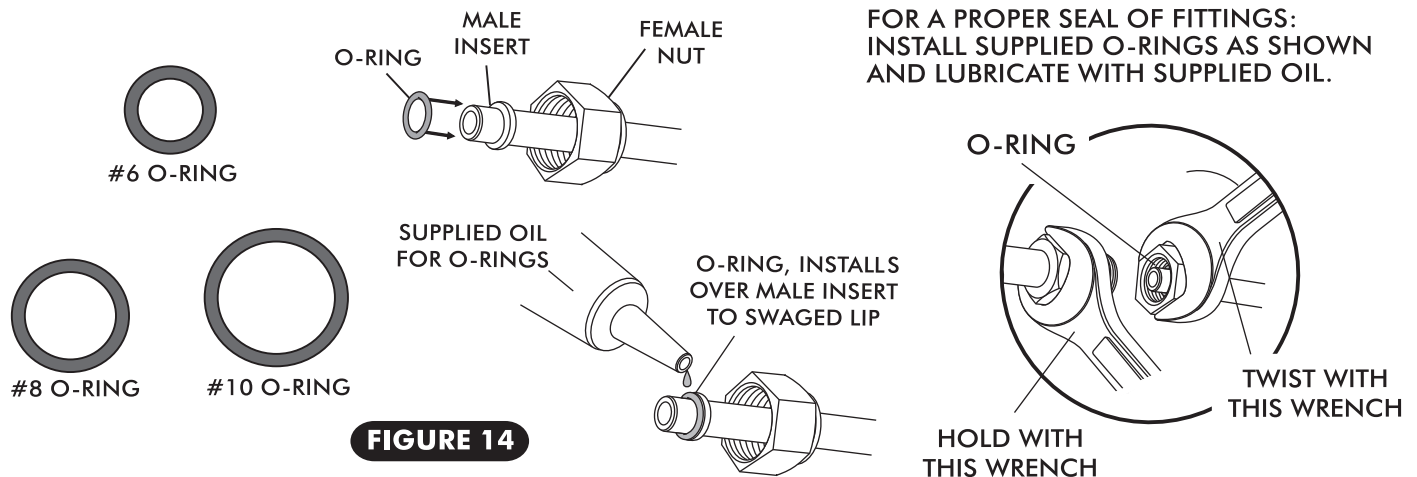
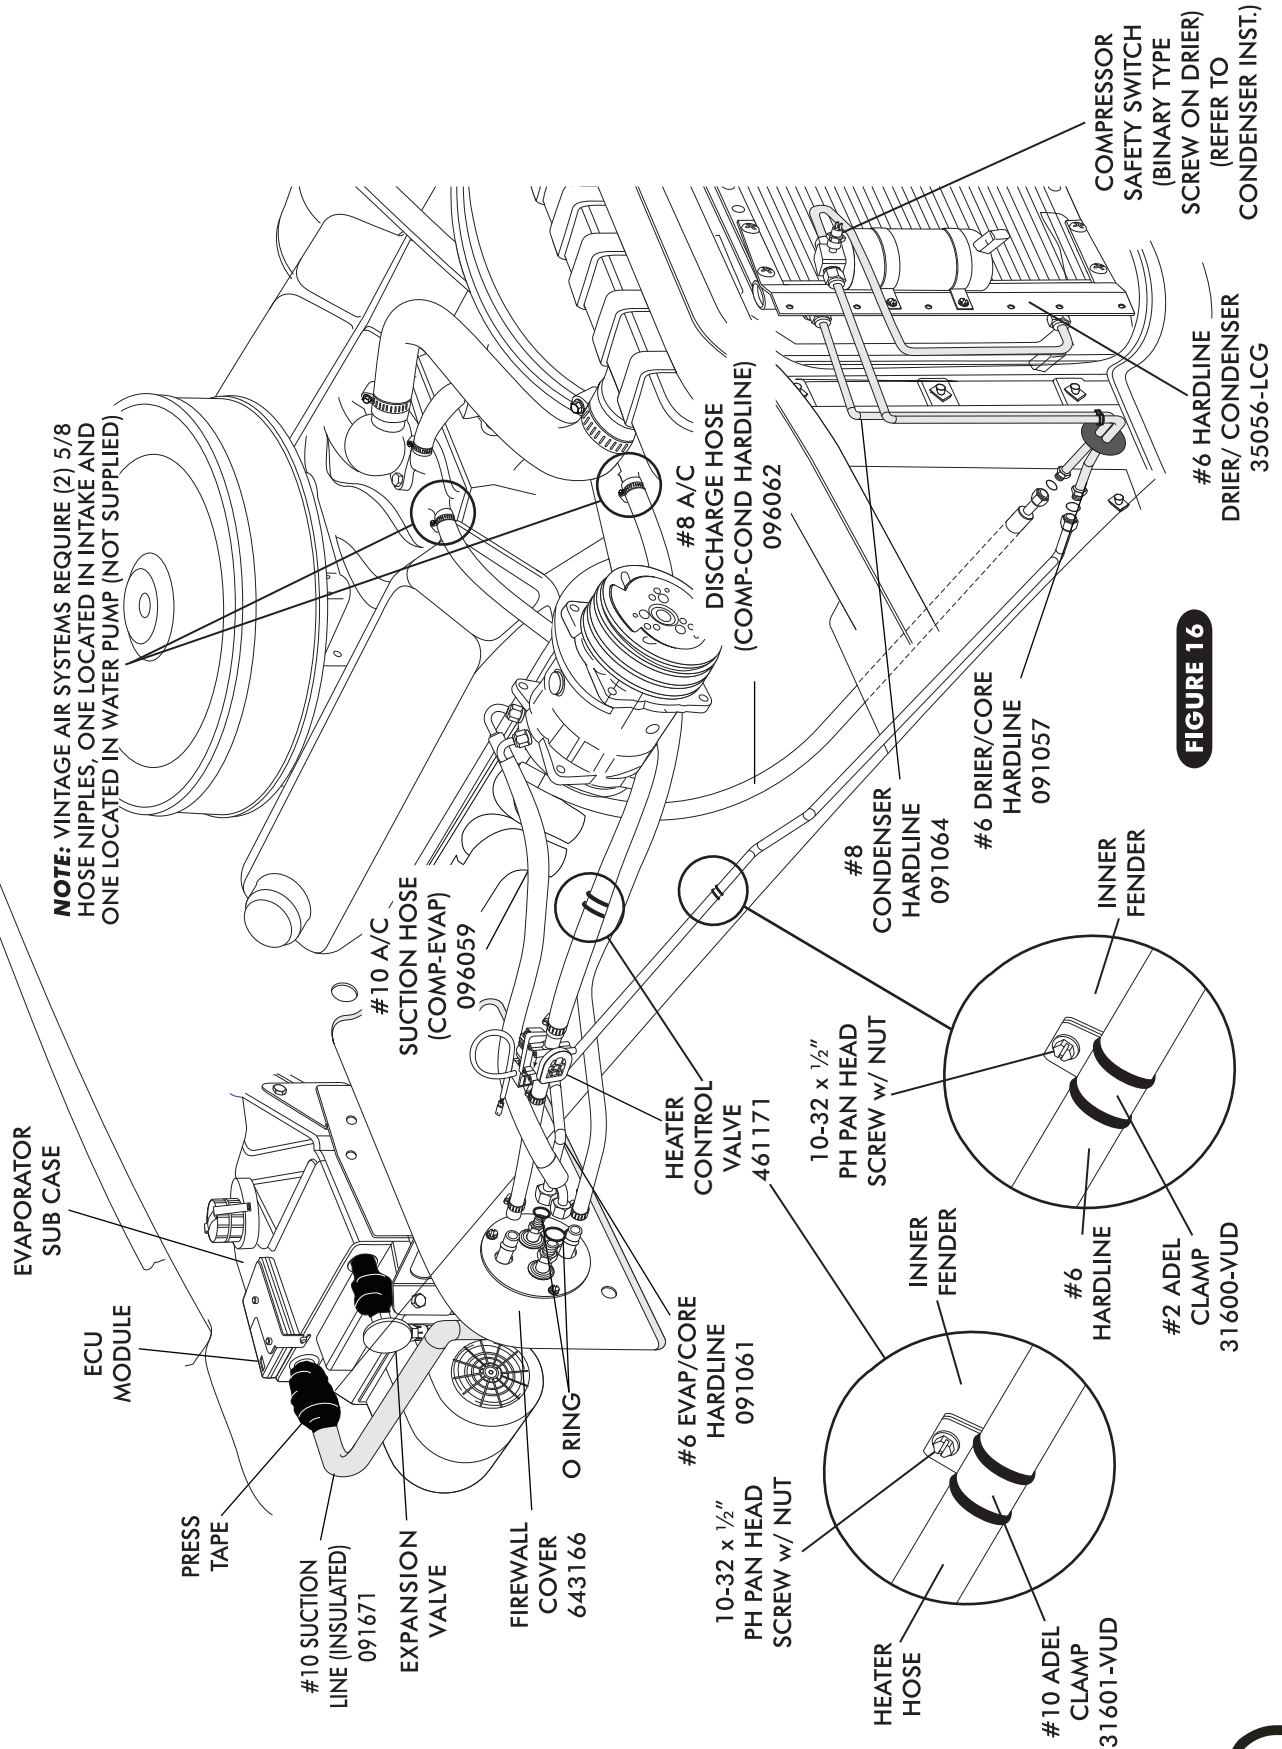

FIGURE 14
FIGURE 16
- ☐ LOCATE THE #8 COMPRESSOR A/C HOSE. LUBRICATE (2) #8 O-RINGS (SEE FIGURE 14, ABOVE) AND CONNECT THE 135° FEMALE FITTING w/134a SERVICE PORT TO THE #8 DISCHARGE PORT ON THE COMPRESSOR. ROUTE THE STRAIGHT FEMALE FITTING TO THE #8 CONDENSER HARDLINE COMING THROUGH CORE SUPPORT. SEE FIGURE 16, PAGE 16. TIGHTEN EACH FITTING CONNECTION AS SHOWN IN FIGURE 14 ABOVE.
- ☐ LOCATE THE #10 COMPRESSOR A/C HOSE. LUBRICATE (2) #10 O-RINGS (SEE FIGURE 14, ABOVE) AND CONNECT THE #10 135° FEMALE FITTING w/134a SERVICE PORT TO THE #10 SUCTION PORT ON THE COMPRESSOR. ROUTE THE 45° FEMALE FITTING TO THE #10 EVAPORATOR HARDLINE COMING THROUGH THE FIREWALL SEE FIGURE 16, PAGE 16. TIGHTEN EACH FITTING CONNECTION AS SHOWN IN 14 ABOVE.
- ☐ LOCATE THE #6 EVAP/CORE HARDLINE AND LUBRICATE (2) #6 O-RINGS (SEE FIGURE 14 , ABOVE) AND CONNECT THE HARDLINE TO THE #6 HARDLINE COMING THROUGH THE CORE SUPPORT FROM DRIER. ATTACH THE OTHER END OF THE HARDLINE WITH LUBRICATED O-RING TO THE #6 EVAPORATOR HARDLINE COMING THROUGH THE FIREWALL. SEE FIGURE 16, PAGE 16. TIGHTEN EACH FITTING CONNECTION AS SHOWN IN FIGURE 14, ABOVE.
- ☐ USE A #2 & #10 ADEL CLAMP TO SECURE THE #6 EVAP/ CORE HARDLINE AND THE 5/8" HEATER HOSE TO THE INNER FENDERWELL AS SHOWN IN FIGURE 16, PAGE 16. SECURE THE ADEL CLAMP TO THE INNER FENDER USING (2)10-32 x 1/2" PH PAN HEAD SCREWS w/ NUTS.
- ☐ ROUTE A/C WIRES THROUGH 3/8" GROMMET AS SHOWN ON FIGURE 16 (12 VOLT/ GROUND/ BINARY SWITCH/ HEATER VALVE)